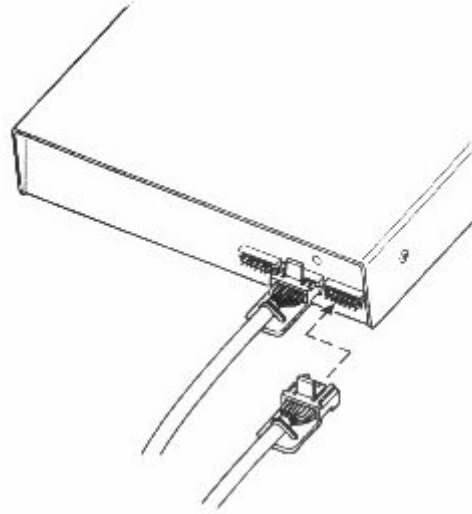
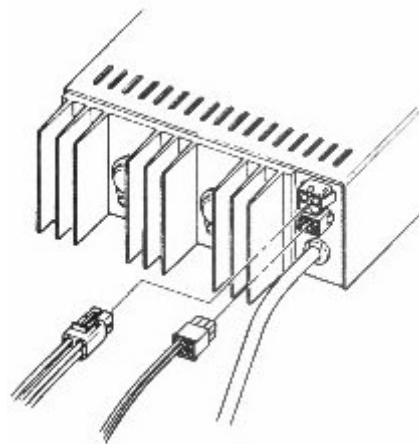

Figure 2-1. ZR310, Rear View
Figure 2-2. Power Supply, Rear View
3. Connect the receive radio repeater connector to the ZR310 **Receive** connector (Figure 2-1).
6. Using a T25 Trox screwdriver, secure the ZR310 to the repeater housing using two M5x0.8x8 machine screws (7).
7. One end of the equipment power cable has only one connector. Connect it to the top connector on the power supply (Figure 2-2).